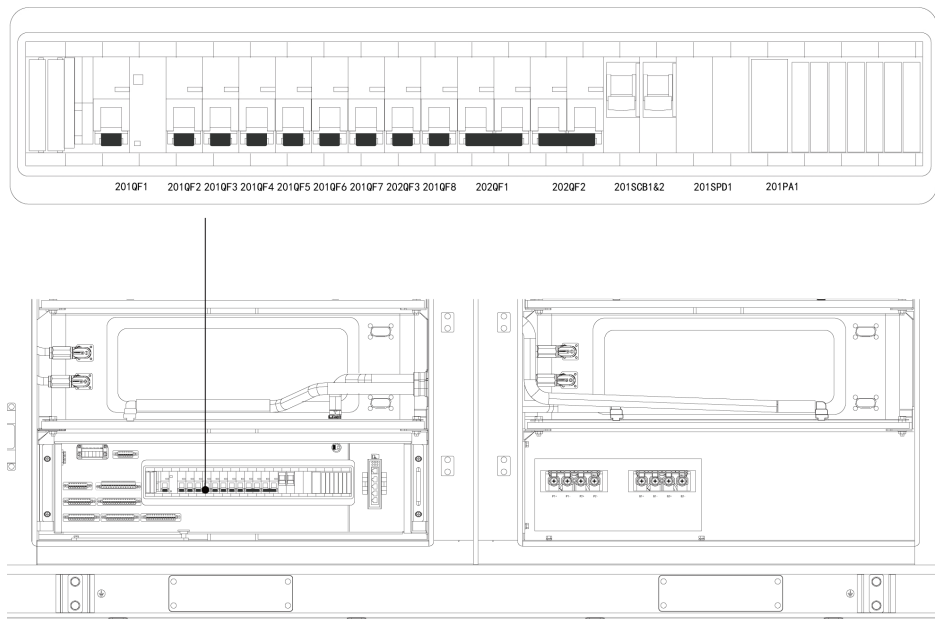

Figure.2
- ① Turn on the surge protection circuit breaker **201SCB1** and **201SCB2**. See the Figure.2.
- ② Attach to auxiliary power and external UPS. See the “How to position terminals related?”in the section 4.2.1. Verify that both the external AC auxiliary power input and the external UPS AC input voltages are within their specified normal ranges by utilizing a multi-meter.
- ③ Turn on the AC auxiliary power supply breaker **201QF1** and AC UPS breaker **202QF1**. See the Figure.2.
- ④ Turn on the PV power breaker **201QF2** after ensuring the voltage level of the external photovoltaic loop is within the normal range by utilizing a multi-meter. See the Figure.2.
- ⑤ Turn on the lead-acid battery breaker **202QF3** and perform a vision inspection for the ring network switch by indicators' lighting up.
- ⑥ Turn on the liquid cooling system breaker **201QF3**, DC auxiliary power breaker **201QF4**, and dehumidifier breaker **201QF6**. See the Figure.2.
Measure the 24V DC voltage at the input of 202QF2, and verify the high-voltage box, battery pack power supply, and communication status. If all are normal, turn the DC auxiliary power breaker **202QF2**. See the Figure.2.